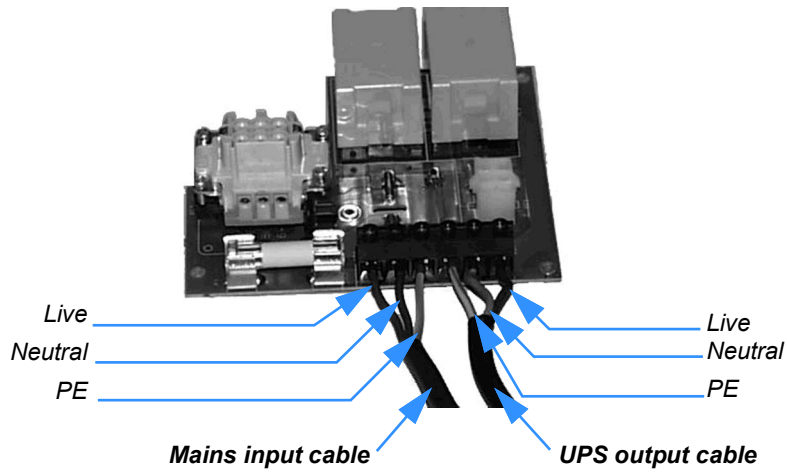
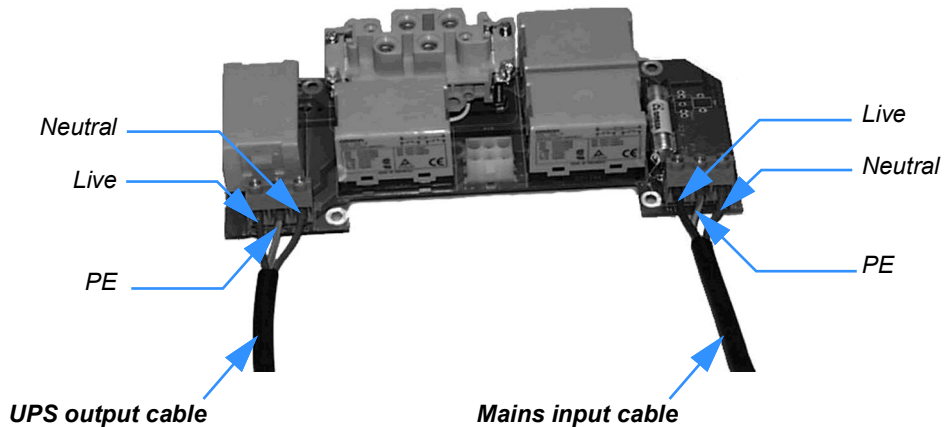

Figure 7.3 Maintenance bypass connector (MINIpowerPLUS 5000)
Figure 7.4 Maintenance bypass connector (MINIpowerPLUS 10000)
5. Feed the input/output power cables removed from the standard connector (above) through the cable glands in the new connector's cover – observe the connection details in Figure 7.3 or Figure 7.4 to determine the correct orientation.
6. Connect the input and output cables to the replacement Maintenance Bypass Connector as shown in Figure 7.3 or Figure 7.4. – take care to ensure the cables are connected to the correct terminal blocks.